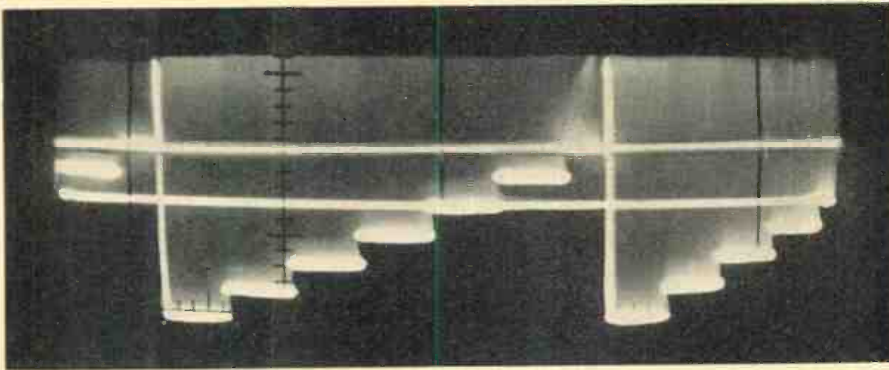
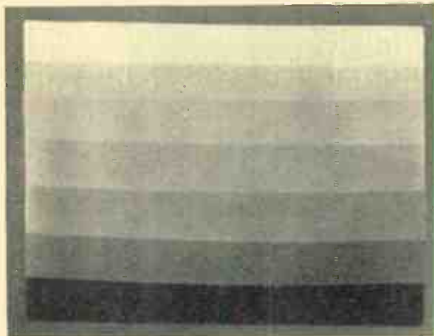

Fig. 5. The oscilloscope pattern obtained when non-standard blanking is used.
Fig. 6. Kinescope picture of Fig. 5.
of the stages are linear. Crowding of the stairs at the bottom or the top would indicate that the video amplifier is either being overloaded or operating on an improper portion of its curve of grid voltage versus plate current. Whether or not the blacks or whites will be compressed depends upon whether the video stage in question is poled black-positive or black-negative. Any tilt in the staircase waveform as observed on the oscilloscope indicates poor low-frequency response. By connecting either the composite blanking output from a standard television generator or the combined horizontal and vertical sync pulses obtained from a television set, blanking may be added to the basic staircase signal. This may be obtained by separating the grids of the cathode follower and feeding one of the grids the composite blanking voltage. The oscilloscope picture with the non-standard blanking used will then appear as shown in Fig. 5 and the kinescope picture as in Fig. 6. The apparent white edge at each grey tone is an optical illusion. The pictured steps may be checked for tilt by masking each step from its neighbor with a piece of paper. Of course blanking is not necessary, but the return traces of the horizontal and vertical lines will otherwise be seen.
Fig. 6. (A) Recording characteristic. (B) Characteristics when played by a magnetic cartridge. (C) Equalizer characteristic. (D) Over-all characteristic (A + B + C).
An example of the equalizer action is shown in Fig. 6. In this figure a typical recording characteristic of a long playing record (A) is shown. Note the low frequency boost, the 500 cycle crossover, and the high frequency boost. The low frequency boost is provided to reduce the effects of hum and turntable rumble, while the high frequency boost is designed to minimize surface and stylus noise.